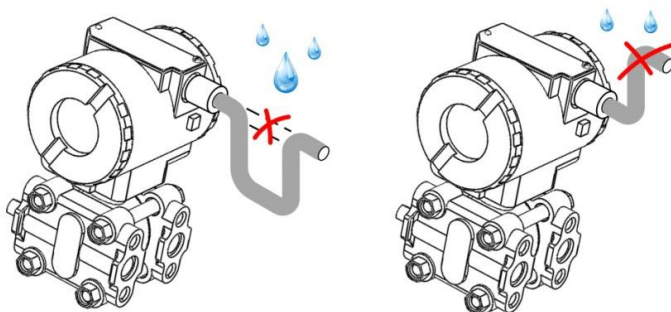

Figure 5.4 - Cable entry
5.1.19 See Figure 5.4 for cable positioning recommendation.